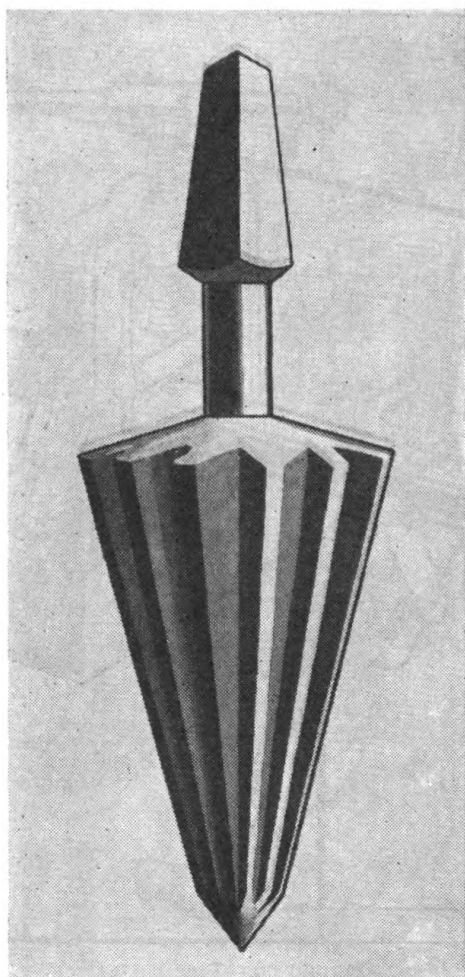

FIGURE 67.—Pipe reamer.
b. Operating pipe cutter.—Mark the location of the cut clearly on the pipe with a scribe, soapstone, or chalk. In measuring pipe it is the usual practice to allow $\frac{1}{2}$ inch in length for thread to enter fitting. Grip the work in a pipe vise and slip the cutter over the end of the pipe. By turning the handle of the cutter, set the cutting wheels on the mark previously made; then rotate the cutter, setting up the cutting wheels after each complete turn by turning the handle clockwise until the pipe is separated. Keep the cutter perpendicular to the work at all times or the wheels will not track properly. Remove the bur which is left inside the pipe with a pipe reamer (fig. 67).